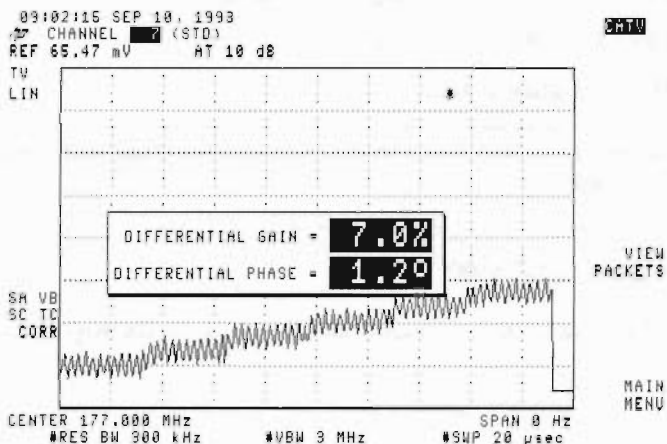

Figure 2-109. Differential Gain/Phase
10. Record the DIFFERENTIAL PHASE value as TR Entry 7 through 12 of the performance test record. See Figure 2-109.